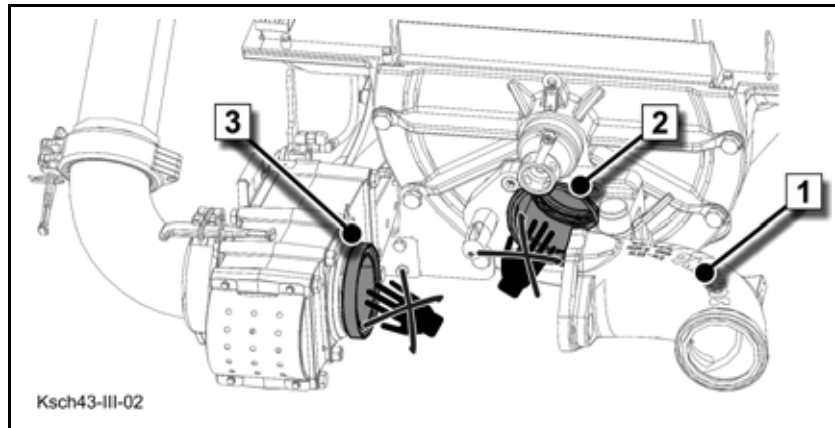

Fig. 610
If the "outlet" (1) (**Fig. 610**) is folded up, the chamber valve (3) and the rock valve (2) can be accessed.